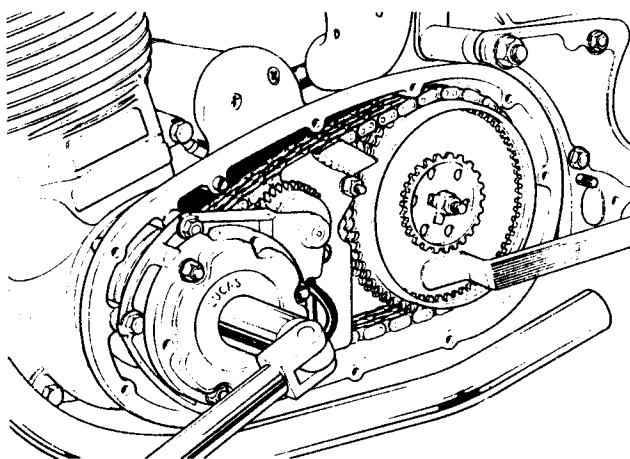

Fig. C12(a) Removing rotor nut whilst applying rear brake to prevent movement
- 1 Using a suitable sized socket wrench $\frac{1}{2}$ in. Whit. on the alternator rotor nut, remove the rotor nut as shown in Fig. C12.(a)